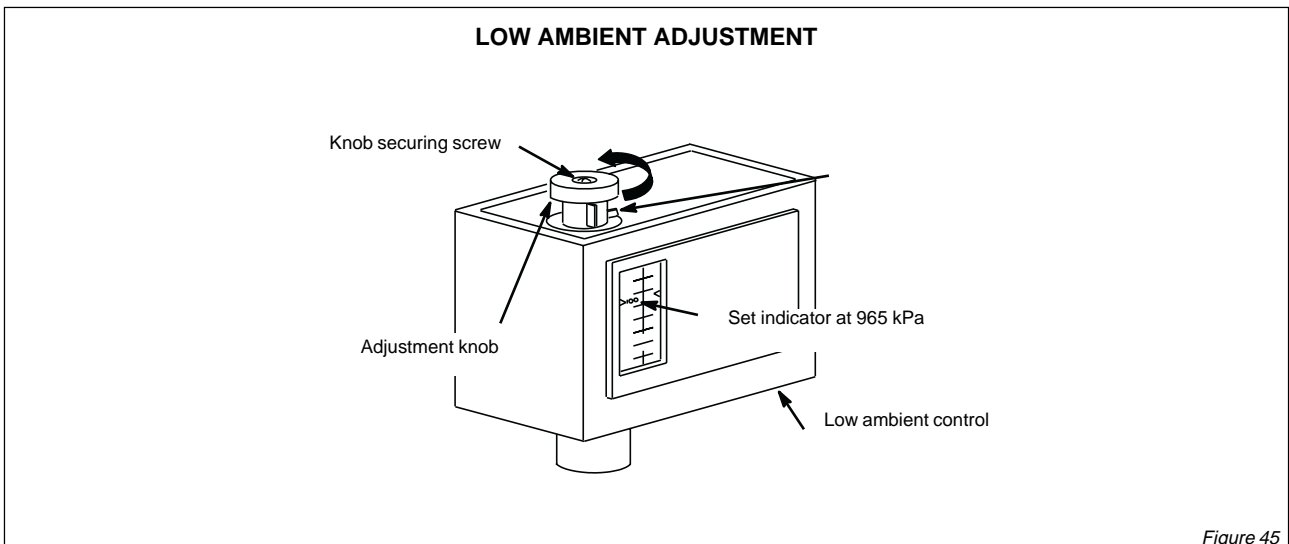

Figure 45
1. Loosen knob securing screw to allow knob stop to pass over fixed stop on control (see figure 45).